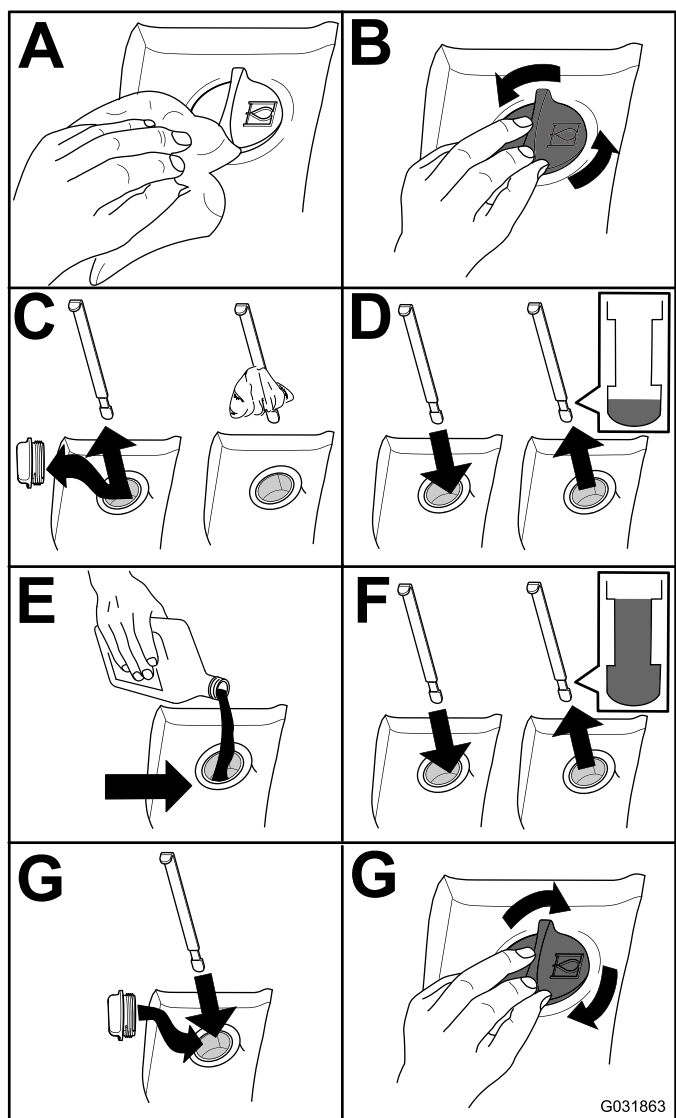

Figure 116
2. Check the hydraulic-fluid level (Figure 116).